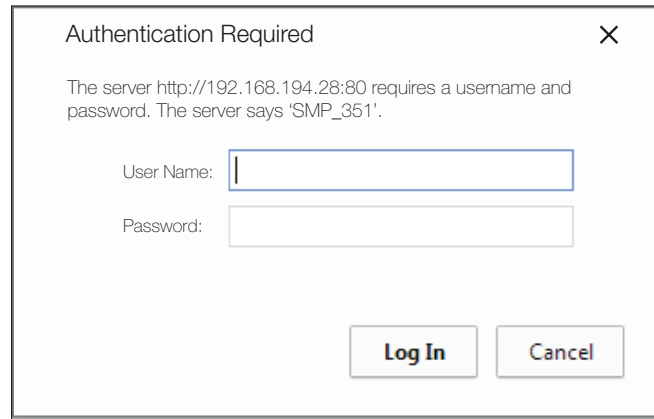

Figure 26. Chrome Authentication Dialog
2. Enter the IP address of the SMP 351 into the address field and navigate to that unit. The **Authentication Required** dialog for Chrome (see figure 26), Firefox (see figure 27), and **Windows Security** for Internet Explorer (see figure 28) **Login** dialog box opens.